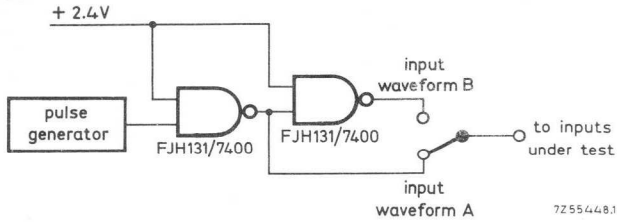

Fig. 1
| | | 0 | 25 | 70 | V _p (V) | Waveform Fig.1 | loading circuit | |